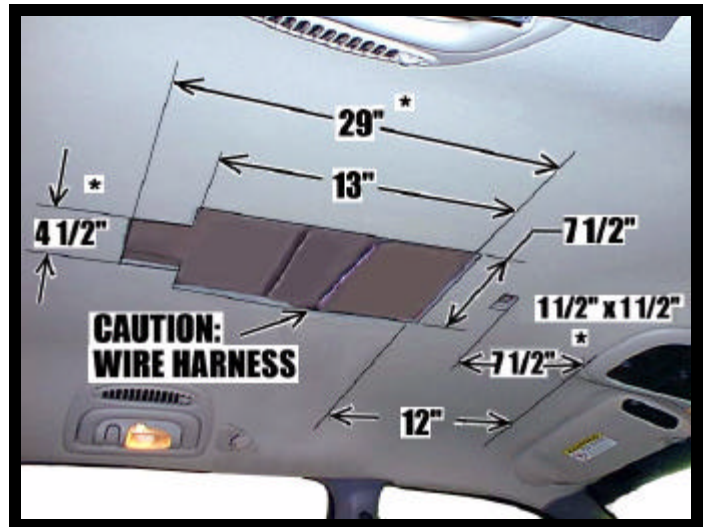

FIGURE 2
3. Using O.E. console as a reference, carefully measure and trim headliner as shown. **Caution: Before cutting headliner material, check for wiring or other componentry above headliner. Cut only where indicated. DO NOT OVERCUT HEADLINER.** Make sure that the 7 1/2" cut is centered left to right in vehicle. See Figure 2.
4. If speaker upgrade kit was purchased, trim these (*) locations. See Figure 2.